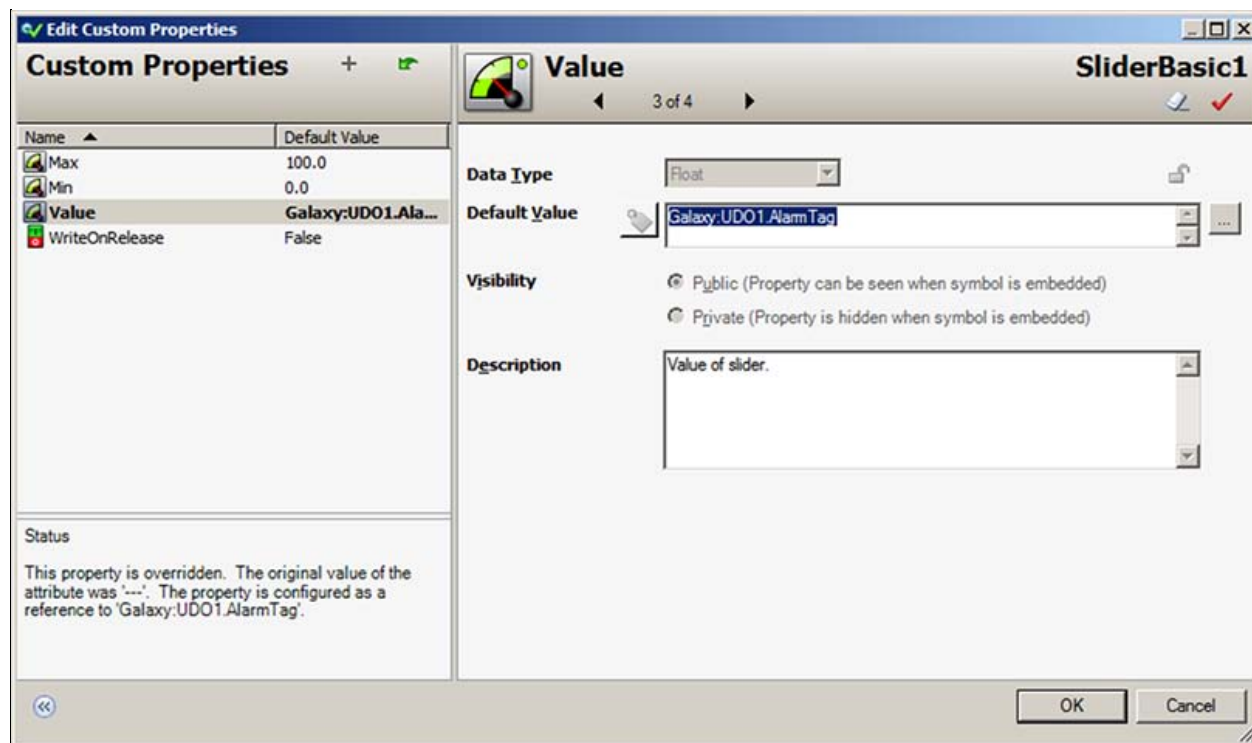

FIGURE 21: SIGNEDALARM DEFAULT VALUE
14. Double-click the **SliderBasic** and add **Galaxy:UDO1.AlarmTag** for the Custom Property's Default Value (Figure 21 below).